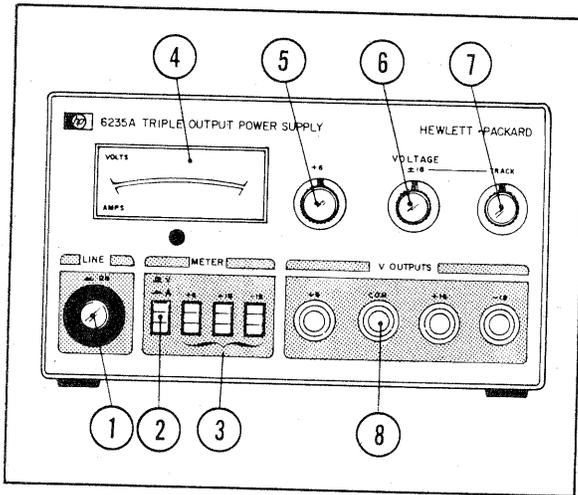

Figure 3-1. Controls and Indicators
3-5 The LINE pushbutton switch (item ①, Figure 3-1) is pushed-in to turn the supply ON and released (out position) to turn the supply OFF. A simulated (non-electrical) ON indicator (within the pushbutton) "lights" when the button is pushed-in whether or not power is applied to the unit.
3-11 The following steps describe the use of the Model 6235A front panel controls and indicators illustrated in Figure 3-1 and serve as a brief check that the supply is operational. Follow this checkout procedure or the more detailed performance test of paragraph 5-6 when the instrument is received and before it is connected to any load equipment. Proceed to the more detailed performance test beginning in paragraph 5-6 if any difficulties are encountered.